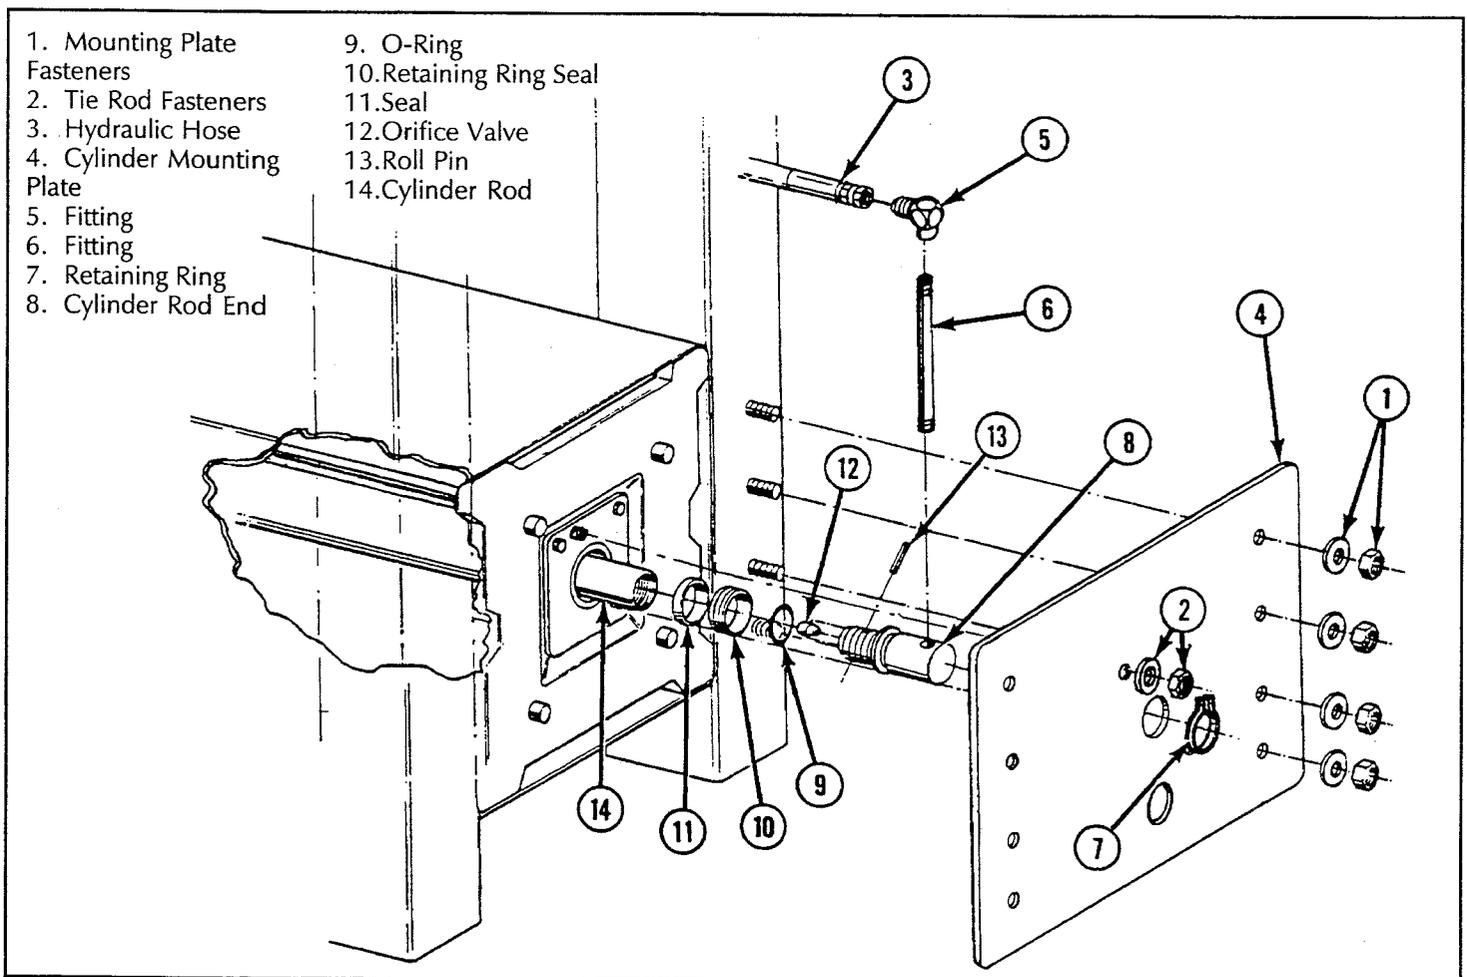

Figure 4-8: Lift Cylinder Assembly
**4.6 Cylinder Assembly****SEAL REPLACEMENT (Figure 4-8)**
(Figure 4-8)